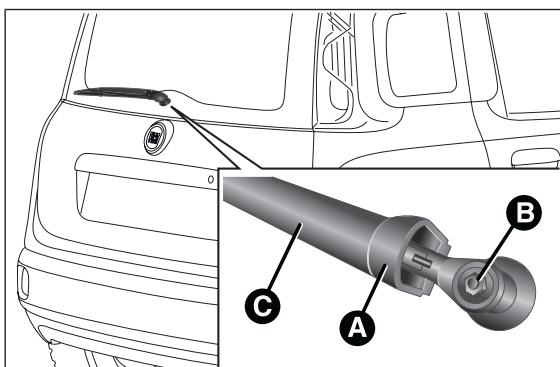

fig. 146
- ☐ raise cover A fig. 146, undo nut B and remove arm C;